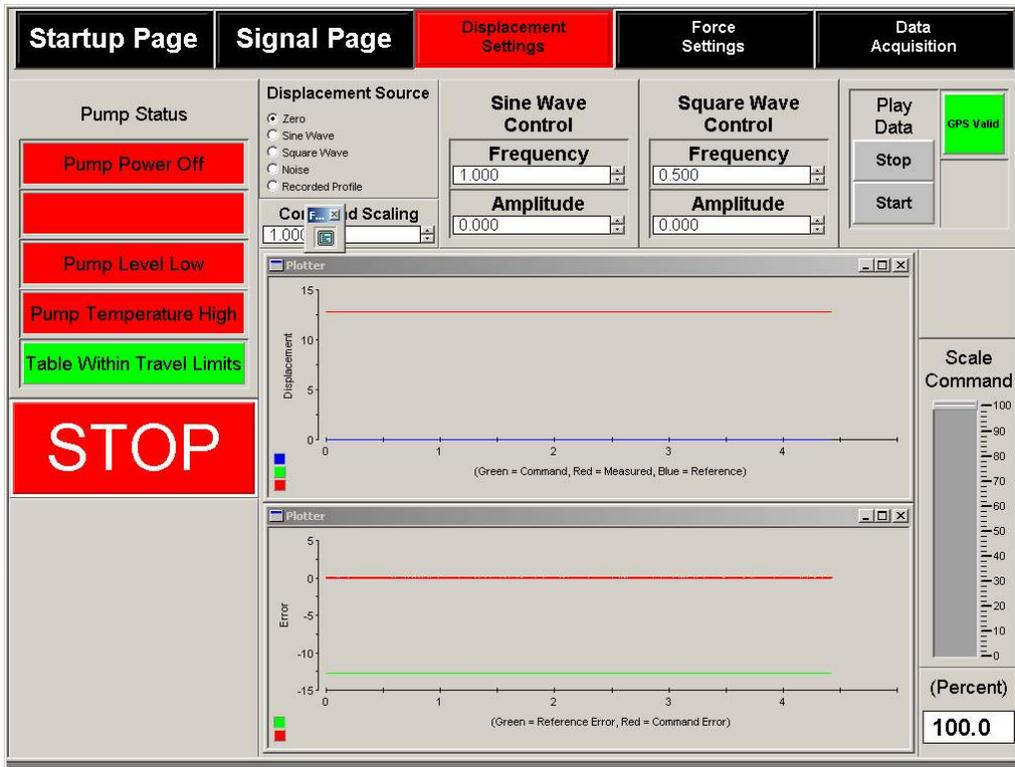

Figure 3.
- Go to “Displacement Setting” page and select command type (“Sine wave”, “Square wave”, “Noise”, or “Recorded profile”), see figure 3.